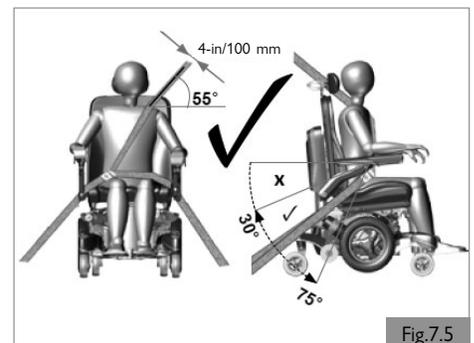
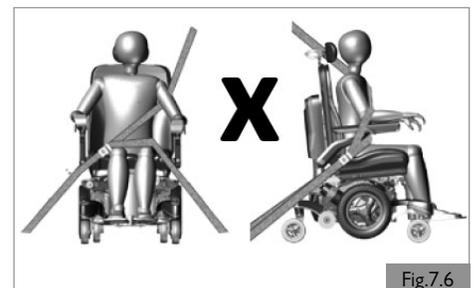

Fig.7.5
Fig.7.6
3. Restraints should be mounted to the appropriate vehicle pillar and should not be held away from the body by wheelchair components such as armrest or wheels (Fig. 7.5).
2. A steeper (greater) angle within the preferred zone is desirable i.e. closer to, but never exceeding 75° degrees (Fig. 7.5).
- a. The upper torso restraint belt must fit over the shoulder and across the chest as illustrated (Fig. 7.5). Restraint belts must be adjusted as tightly as possible consistent with user comfort. Do not fit restraint belt as shown in Fig. 7.6.